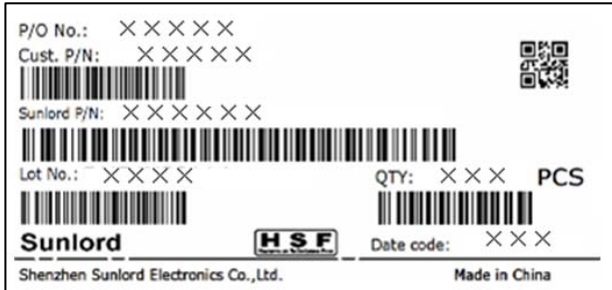

Fig. 8.2.3-2a
- a). Inner box please refers to **Fig. 8.2.3-3** and **Table 8.2.3-1**.